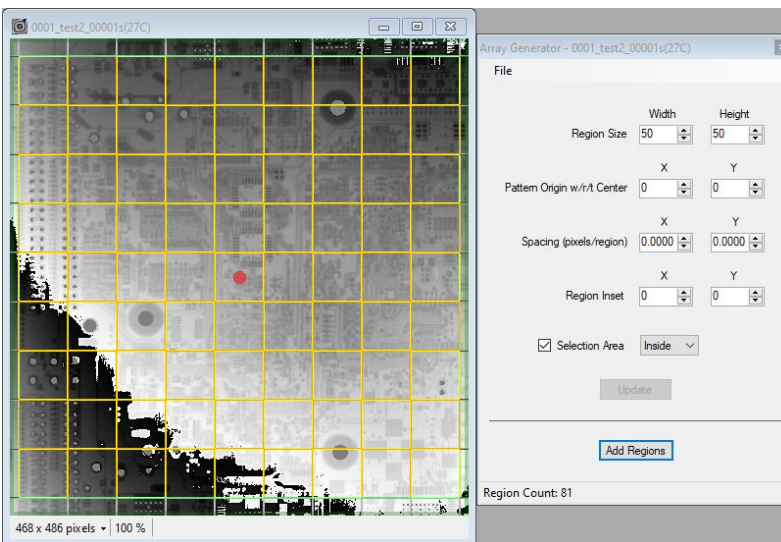

Figure 3.12 Mask Array Pattern and Parameters Window
2. A checkerboard pattern representing where mask regions will be placed appears on the phase image. Also, a window with various array parameter options appears (**Figure 3.12**). **Width** and **Height** refer to the individual dimensions of each mask region. **Pattern Origin** is the distance of the center of the pattern from the center of the image. **Spacing** controls how much space exists between each mask region. **Region Inset** refers to how much of each pattern region is covered by the final mask (a larger inset reduces the size of each mask region). Finally, **Selection Area** controls whether the mask array is placed inside or outside the green bounding box. Each option affects all ROIs in the same way.